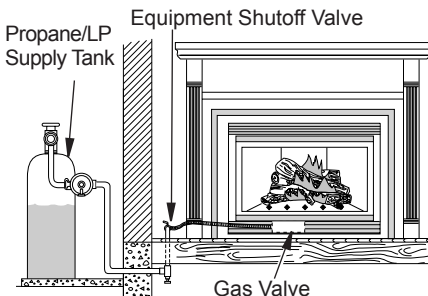
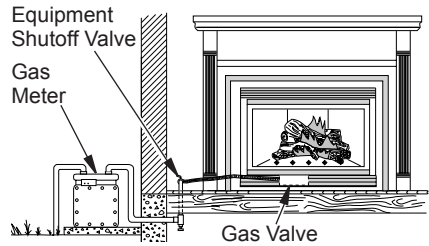

Figure 41 - Checking Gas Joints for Propane/LP Gas Fireplace
Figure 42 - Checking Gas Joints for Natural Gas Fireplace
3. Check all joints from propane/LP supply tank or gas meter to equipment shutoff valve (see Figure 41, for propane/LP or Figure 42, for natural gas). Apply noncorrosive leak detection fluid to all joints. Bubbles forming show a leak. Correct all leaks at once.
4. Check all joints from equipment shutoff valve to gas valve (see Figure 41 for propane/LP or Figure 42 for natural gas). Apply noncorrosive leak detection fluid to all joints. Bubbles forming show a leak. Correct all leaks at once.